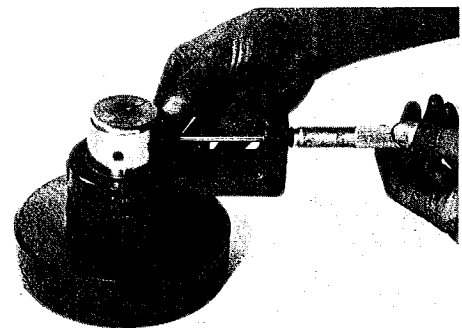

Fig. 3 Checking Micrometer Reading
2. To check the micrometer reading install the setting standard between the Micrometer Shaft and the Micrometer. The Micrometer reading should be 3.000 inches. Take three readings from different places on the Micrometer Shaft and compare readings. (See Fig 3)